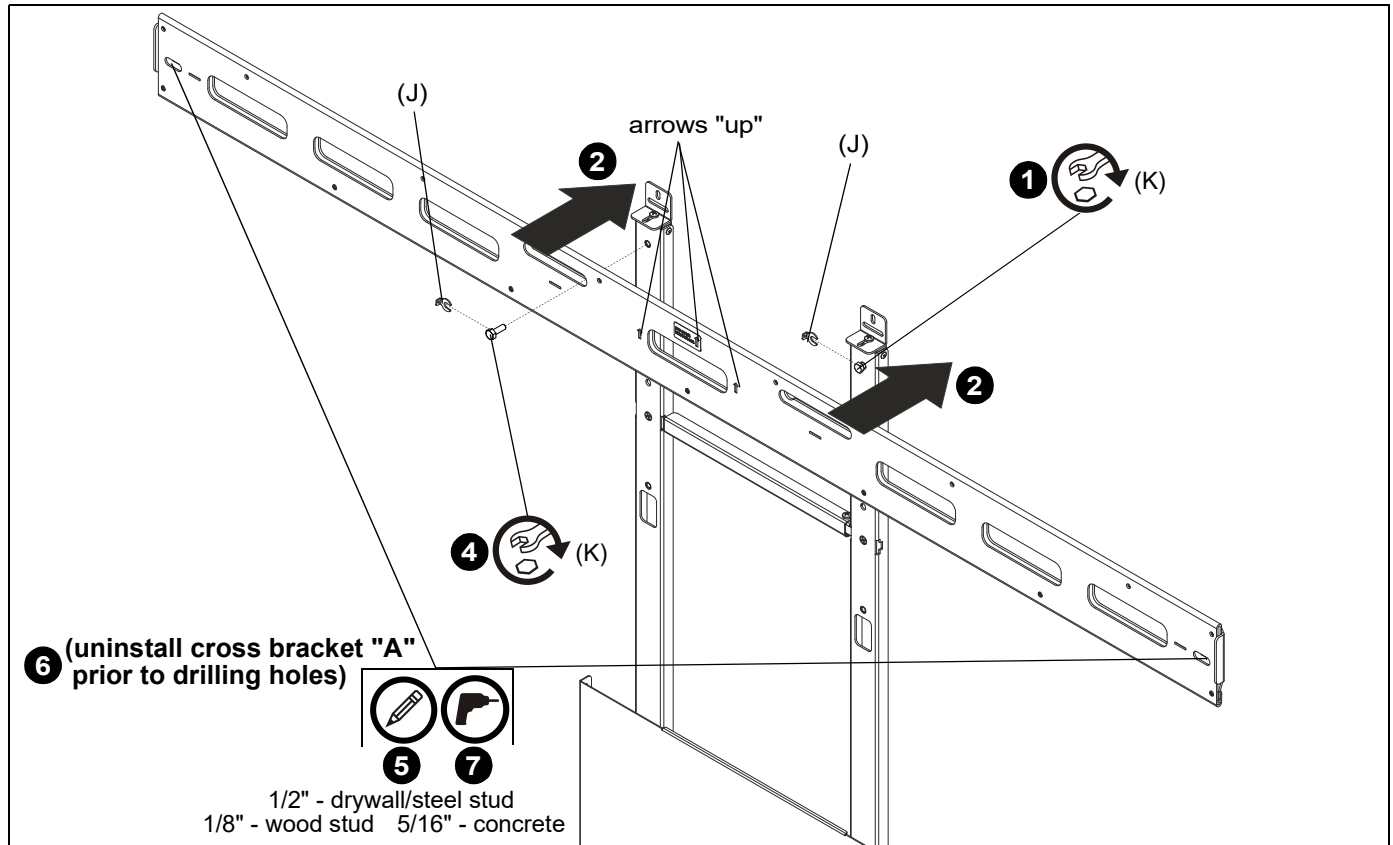
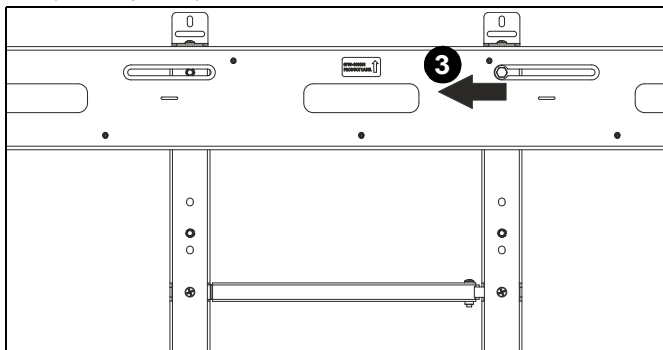

Figure 1
Figure 2
1. Loosely install one 5/16-18 x 3/4" hex head cap screw (K) with one slotted washer (J) into the right hole on AVSFSS upright. (See Figure 1)
2. Install AVA1101 cross bracket (A) onto loosely installed screw. (See Figure 1) and (See Figure 2)
NOTE: Make sure arrows are pointing "up" on cross bracket. (See Figure 1)
3. Slide cross bracket (A) over to left to mounting position. (See Figure 2)
4. Use one 5/16-18 x 3/4" hex head cap screw (K) with one slotted washer (J) to secure cross bracket (A) to the left AVSFSS upright. Do not tighten. (See Figure 1)
5. Mark holes on wall at the locations of the outermost slots of the cross bracket (A). (See Figure 1)
13. Reinstall cross bracket (A) to uprights following Steps 1-4. (See Figure 1) Tighten 5/16-18 x 3/4" hex head cap screws (K) with slotted washers (J).